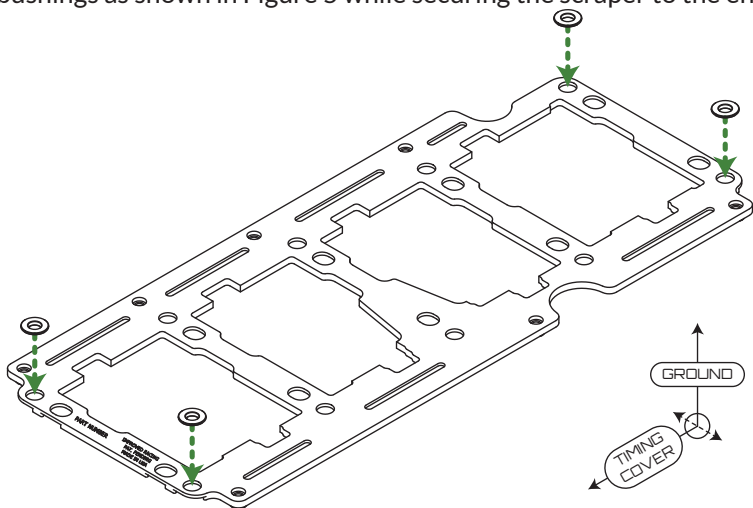

Figure 5 - Inserting the Reducer Bushings for Factory Main Studs
4. If using the factory main cap hardware, insert the four HSP-1009 reducer bushings as shown in Figure 5 while securing the scraper to the engine.